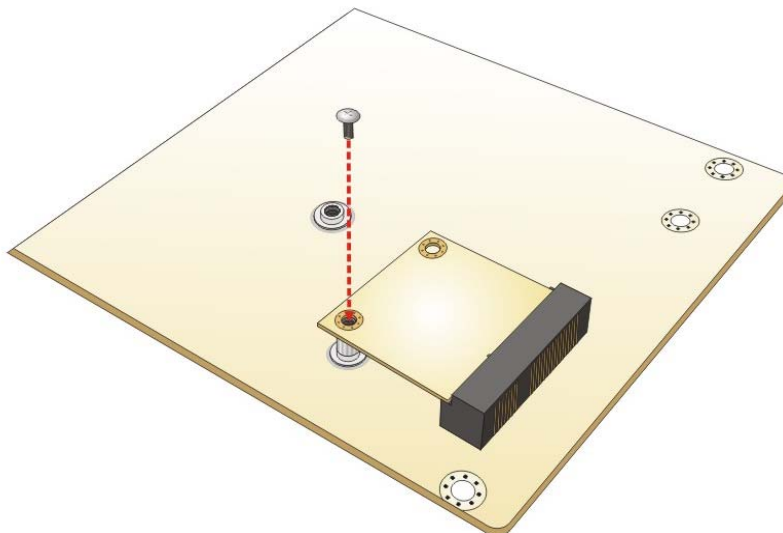

Figure 4-11: Securing the Half-size PCIe Mini Card
Step 6: **Secure the half-size PCIe Mini card.** Secure the half-size PCIe Mini card with the retention screw previously removed (**Figure 4-11**).